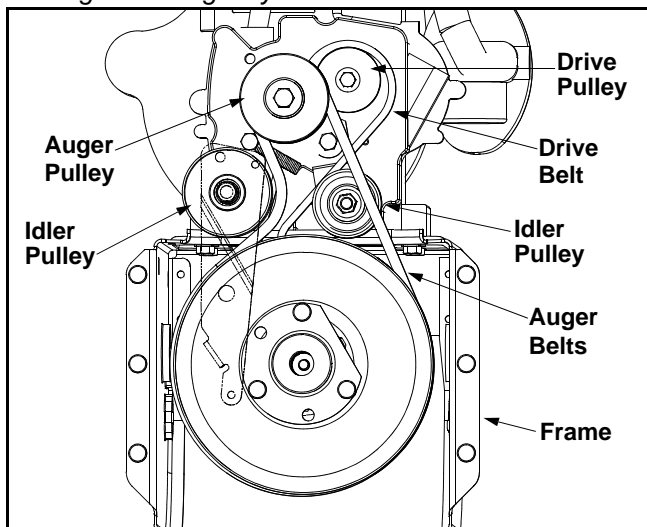

Figure 17
- Roll the front and rear auger belts off the engine pulley. See Figure 17.
- Pull the idler pulley up and lift the belt off the engine pulley and friction wheel disc. See Figure 17.